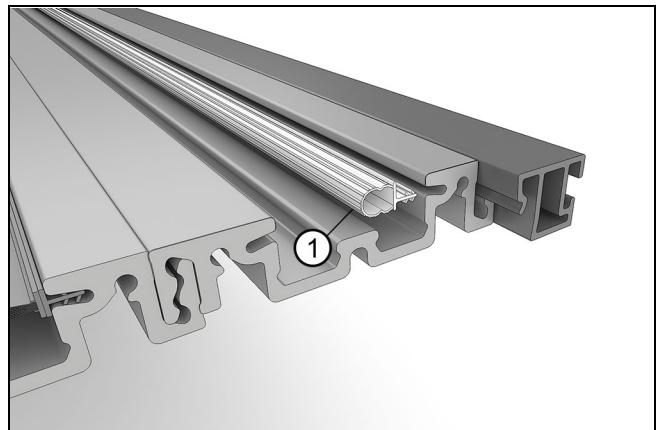
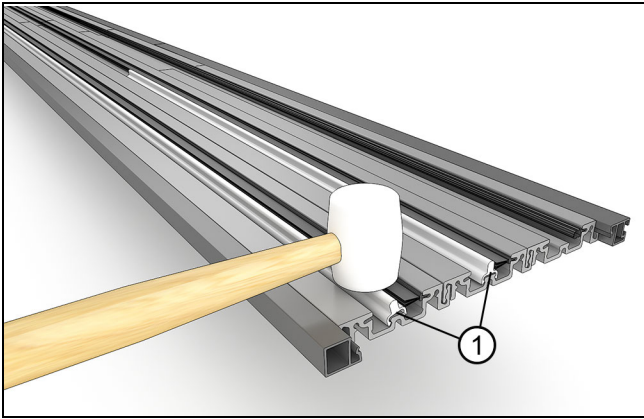
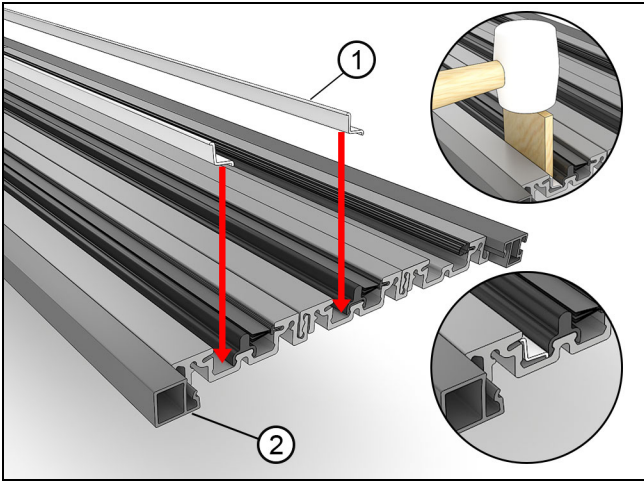

Figure 27
Figure 28
Figure 29
11. Where required, add the roller track, weather strip and sill slot covers over the spliced sections. See Figure 27, Figure 28, and Figure 29.